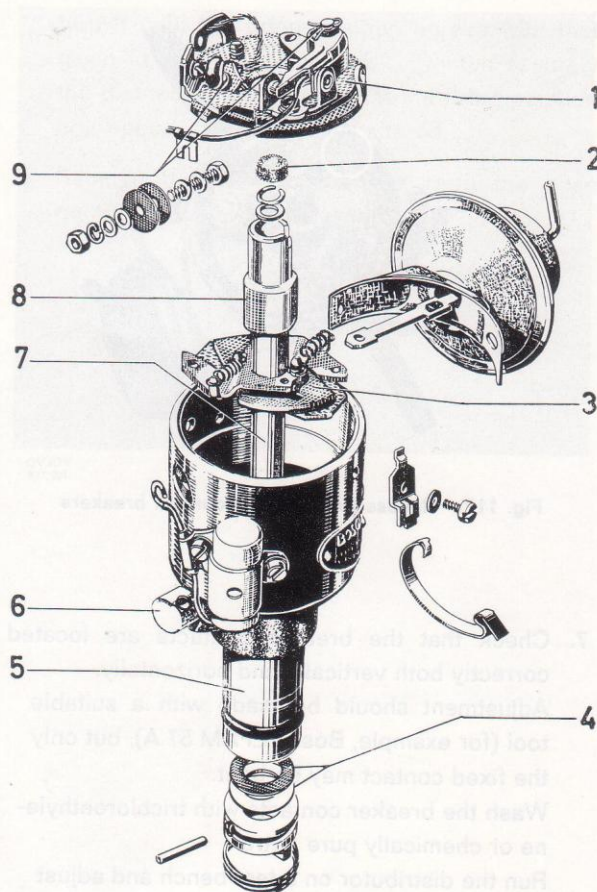

Fig. 109. Lubricating scheme for distributor
1. Lubricate the distributor parts according to the instructions given in Fig. 109.
4. Lubricate the distributor according to the directions given in Fig. 109.